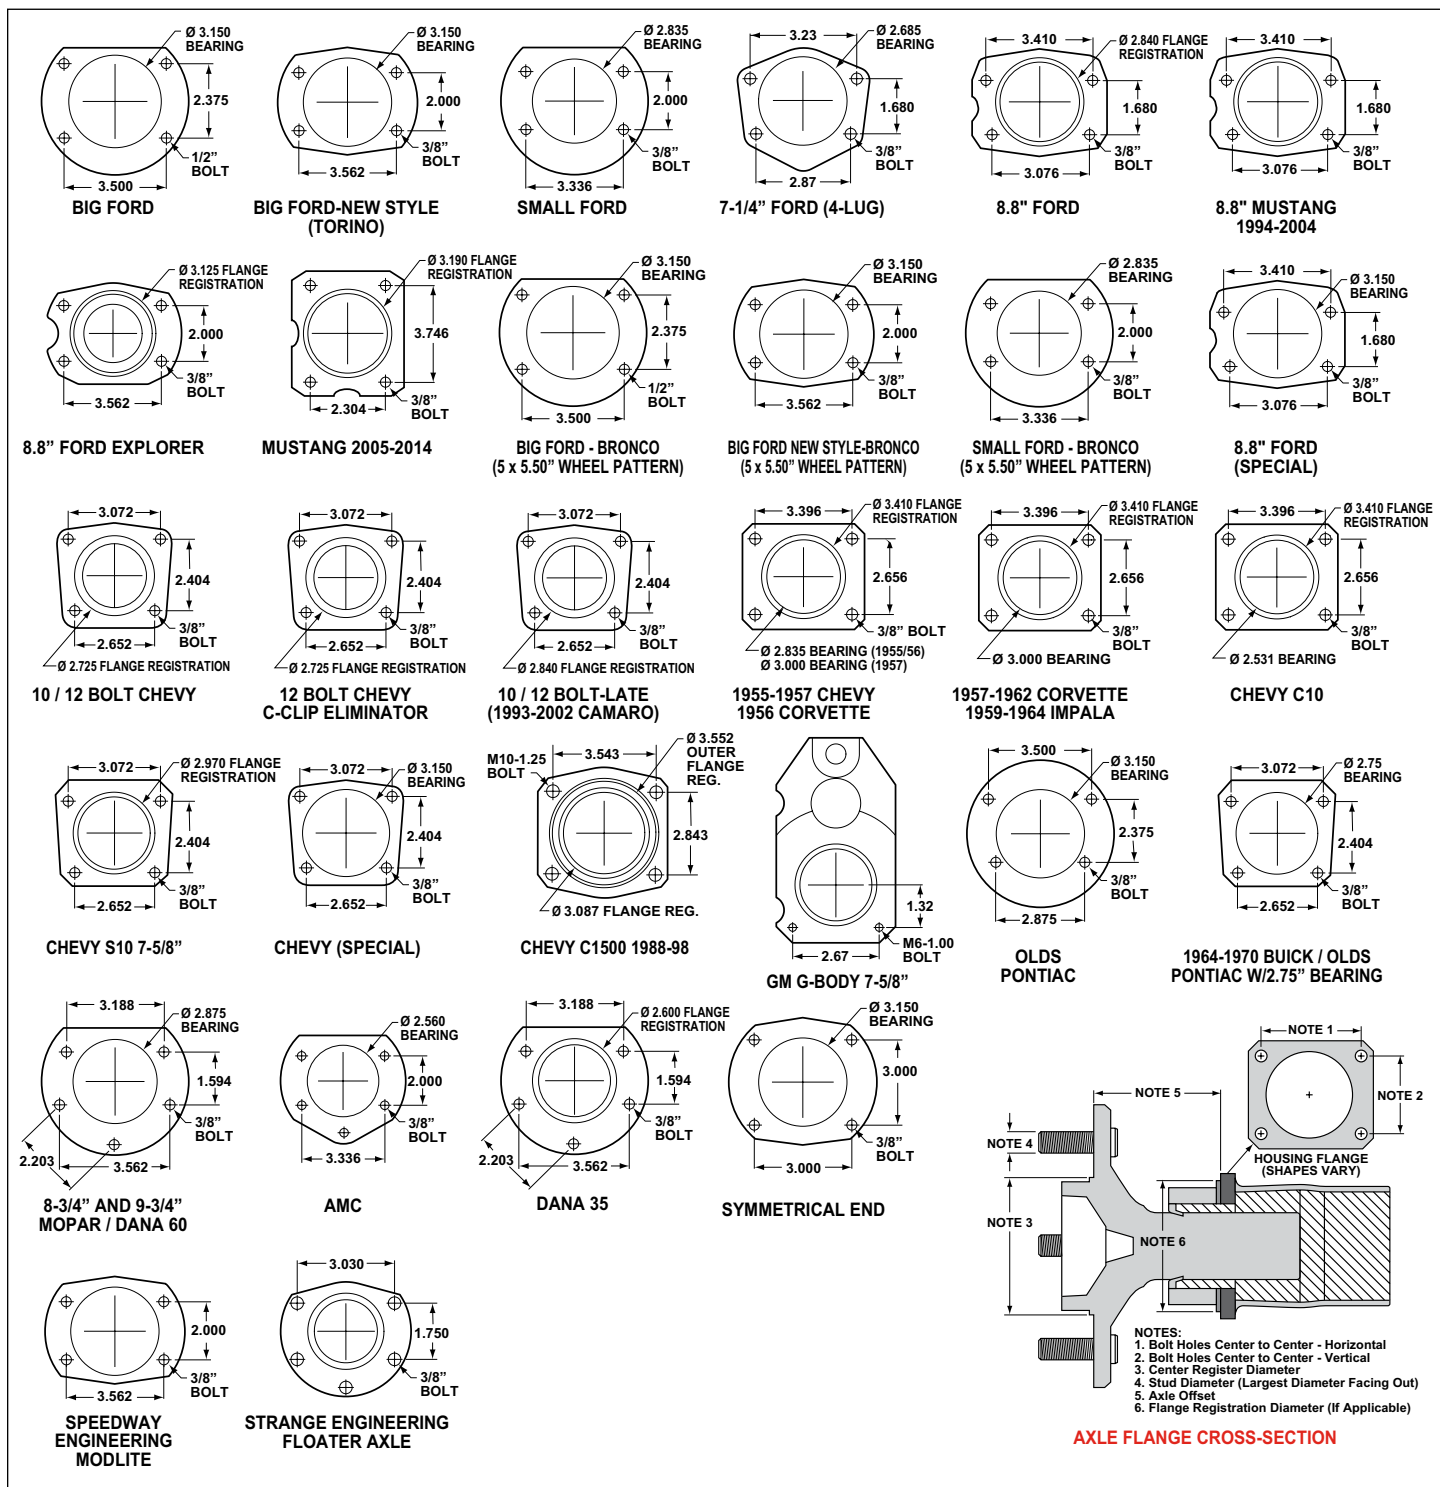

Figure 5. Rear Housing Flange Chart and Axle Flange / Offset Cross-Section
- Axle housing flange registration diameter, Figure 5.
- Dimension from wheel side of axle flange to wheel side of axle housing flange (see Figure 5, Note 5, lower right hand corner). This dimension is critical to ensure proper alignment of the rotor to the caliper, and should match offset given in the kit description.